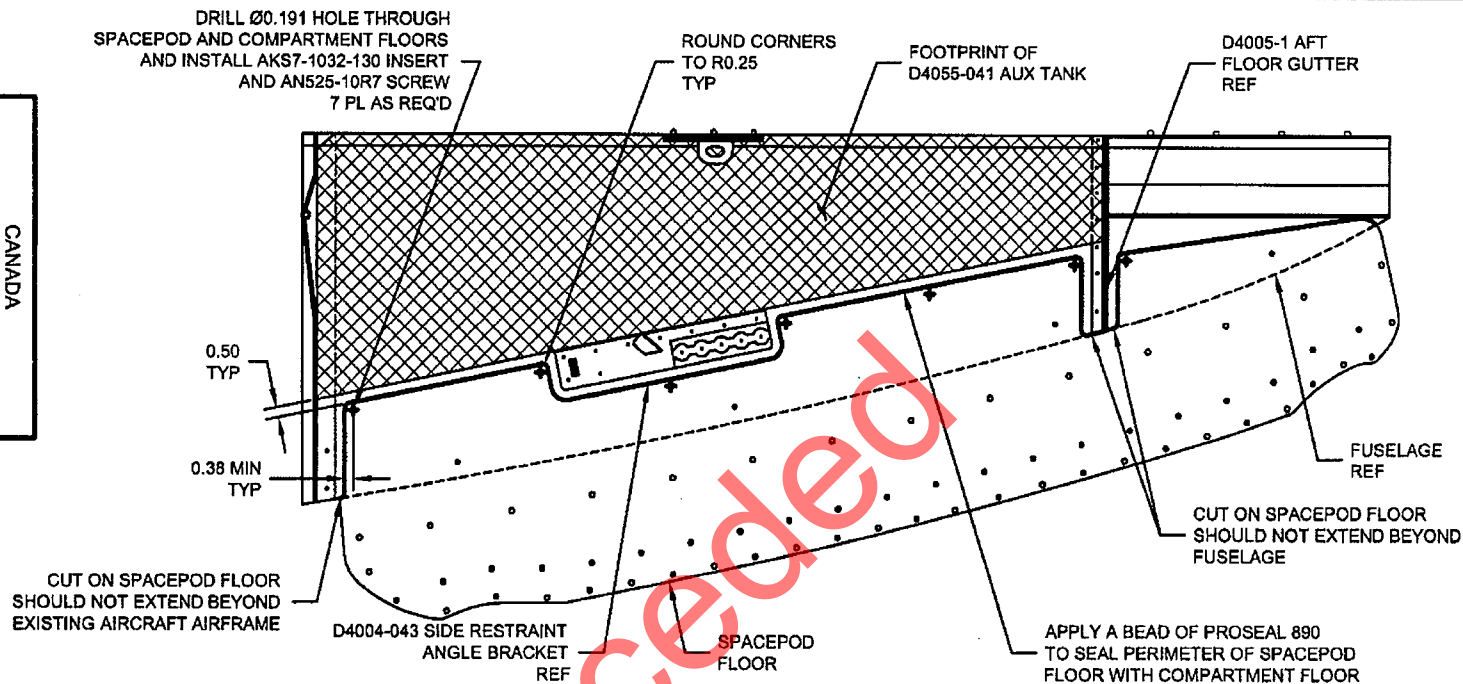

FIGURE 1: TRIMMING OF SPACEPOD FLOOR
- 2.2.9 Re-install Spacepod. Locate seven Ø0.191" holes approx. as shown in Figure 1 onto Spacepod floor and transfer mark onto top surface of the baggage compartment floor. Ensure that the holes marked in the compartment floor are clear of any vertical members below the compartment floor. If necessary the hole may be moved within 2" of the marked hole as required by maintaining a minimum edge distance of 0.38". Remove the Spacepod.